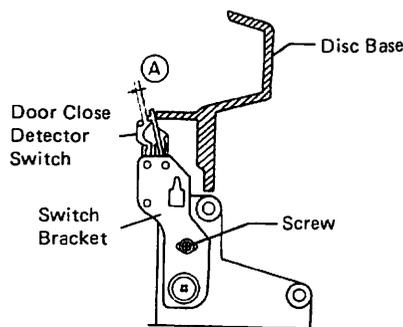

Figure 20-1
2. Make the door locked completely, and tighten the screw so that there is a clearance of 1mm at the part **A** shown in Fig. 20-1.